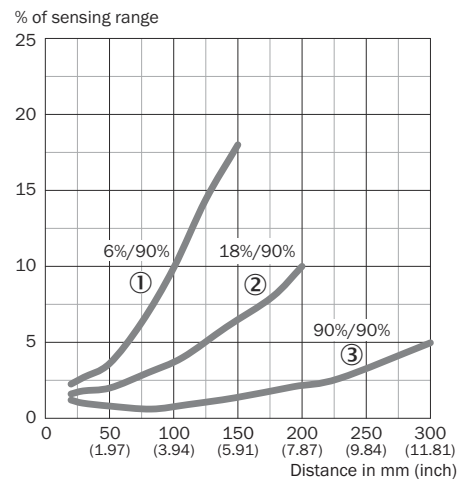

Figure 3: HTB18, % of sensing range
Check the application conditions: Adjust the sensing range and distance to the object or background and the remission capability of the object according to the corresponding diagram see [figure 3] ( $x$  = sensing range,  $y$  = transition range between the set sensing range and suppression of the background as a % of the sensing range (object remission/background remission)). Remission: 6% = black ①, 18% = gray ②, 90% = white ③ (referring to standard white as per DIN 5033). We recommend making the adjustments using an object with a low remission.
The minimum distance (=  $y$ ) for background suppression can be determined from diagram  [figure 3 ①] as follows: